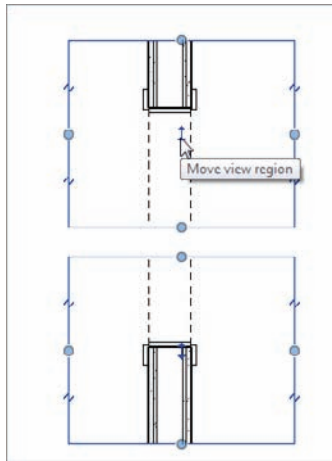

FIGURE 3.59 Sliding the view regions tighter together
5. Within the cropped regions, you will see blue move icons. If you do not see blue icons, as shown in Figure 3.59, you need to select the crop region again.